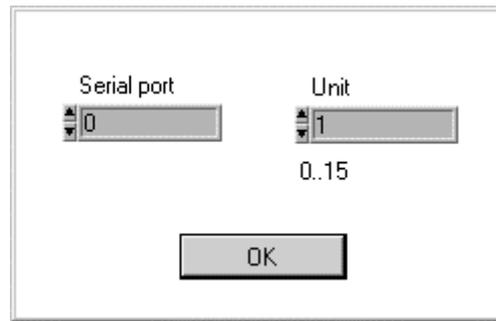

Fig. 4 Communications settings dialog
The rotary switch on your DIGIO is set to 1 and you have connected the serial cable to the COM1 port (PC) or Modem port (Mac). Then the settings you have to make are exactly the same as those indicated in Fig. 4